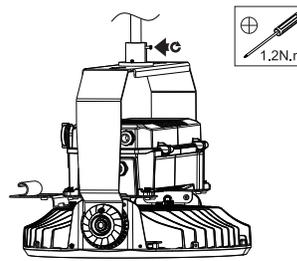

Fig. 35
5. Secure pendant mount to conduit by screwing in set screw (Fig. 35).